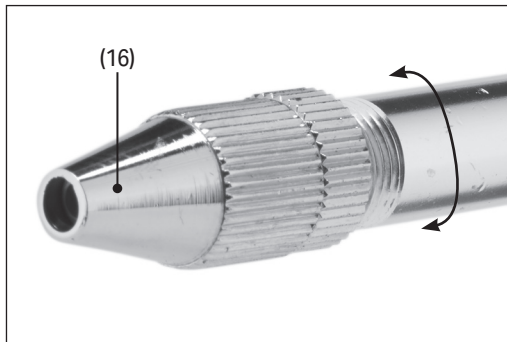

Fig. 11
The cleaning gun nozzle (16) can be adjusted to alter the amount of fluid that is expelled when the trigger is depressed (Fig. 11):